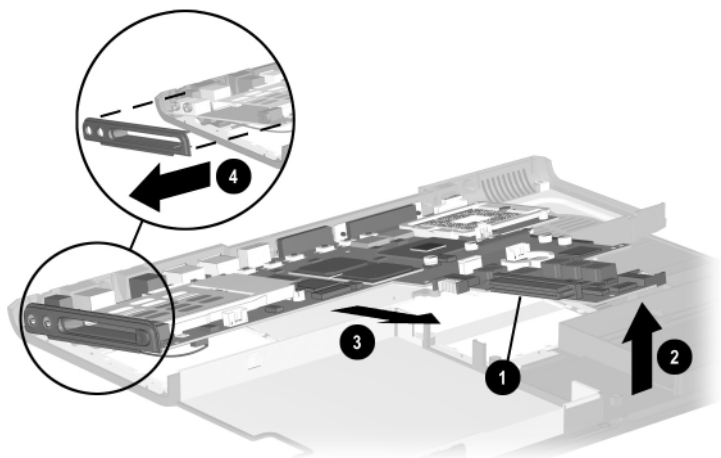

Figure 5-35. Removing the System Board
7. Use the MultiBay connector **1** to lift **2** the front of the system board until the board rests at an angle (Figure 5-35).